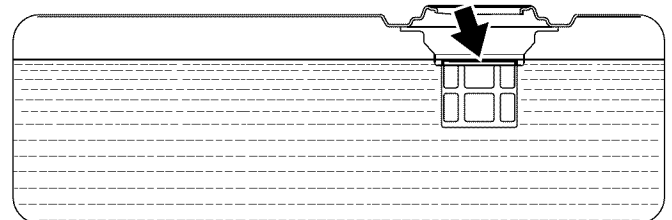

Figure 20 – Maximum Gasoline Fill Level
6. Slowly add gasoline into the fuel tank. Be very careful not to overfill the tank. The gasoline level should NOT be higher than the bottom of the filler neck (see *Figure 20*).